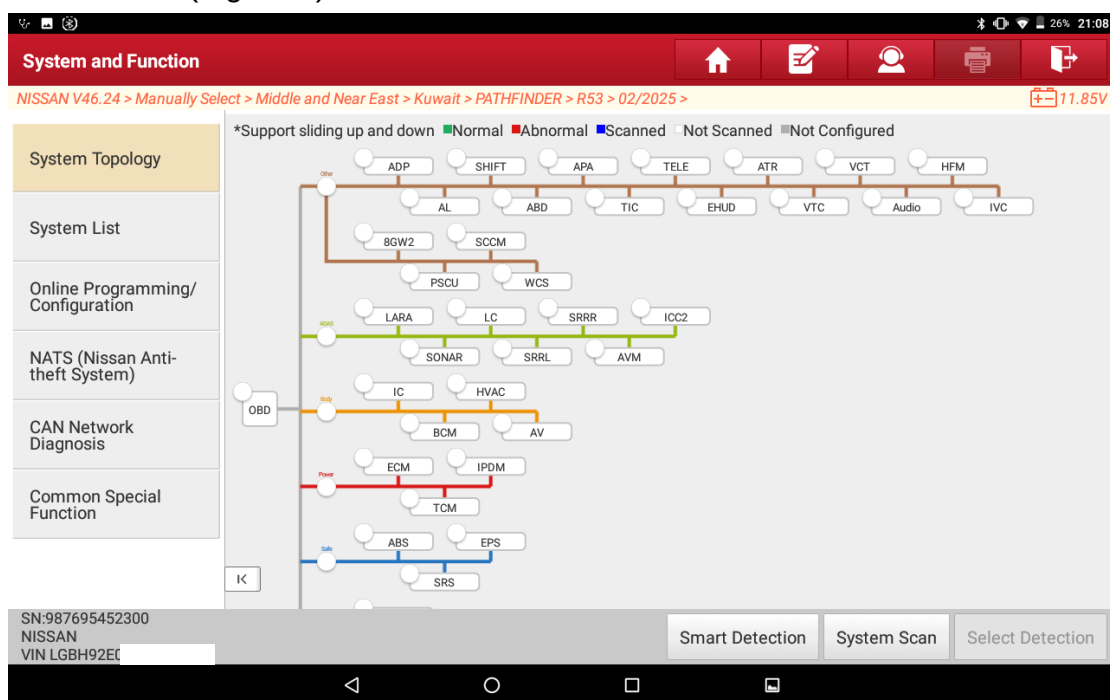

Figure 5
- Click [Manually Select], and choose [Middle and Near East] > [Kuwait] > [PATHFINDER] > [R53] > [02/2025] to enter the vehicle model system interface (Figure 5).